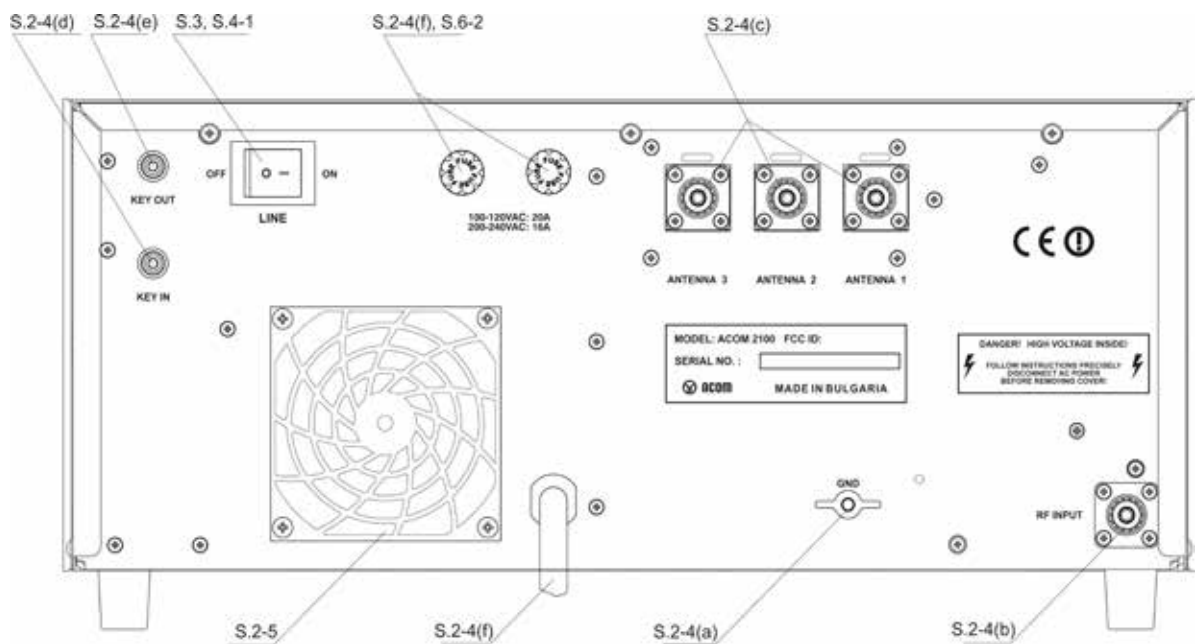

Fig. 2-1 Connections
- First, connect the ground stud of the amplifier (on the rear panel, marked GND) to the station's grounding system (Fig.2-1).
This fan (Fig. 2-1) is not necessary in SSB and CW modes, or in continuous carrier modes (RTTY, SSTV etc.) with a maximum carrier-down time of 5 minutes and a subsequent pause of 3 minutes. For higher duty cycles such as continuous broadcast or increased ambient temperatures the fan is recommended. The auxiliary fan (92x92x25mm or 92x92x38mm) must be a brushless type, 2...5W/24VDC. It may be installed by your dealer or by the manufacturer on request.
After following all instructions in S.2, you may turn ON the main power switch marked "LINE" on the rear panel (Fig.2-1). The LED indicator above the red ON/OFF button located on the front panel must light red and an inscription "ACOM1500" will appear on the display (Fig.3-1):